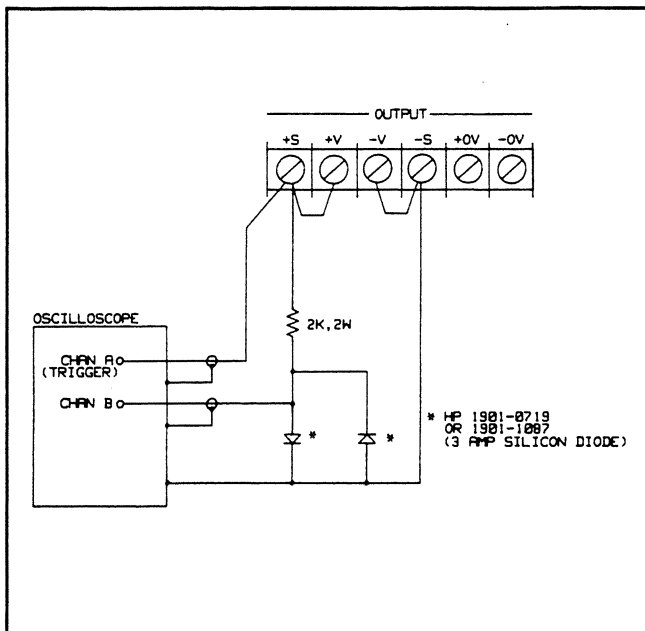
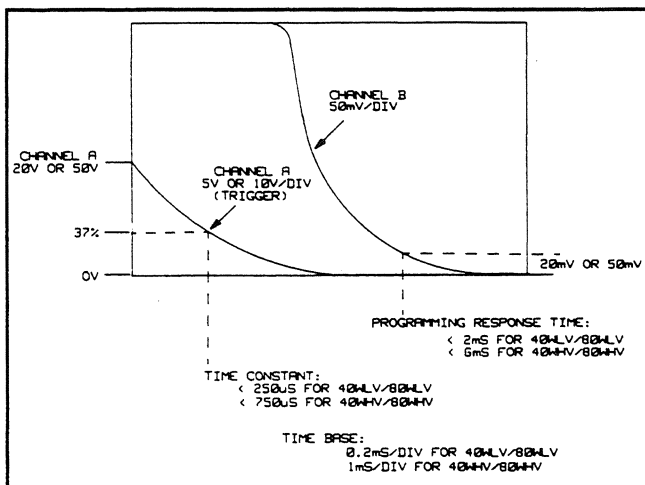

Figure 3-4. Down Programming Speed Test Setup
Figure 3-5. CV Down Programming Speed Test Waveforms
- Turn off the supply and connect the output to be tested as shown in Figure 3-4.
- On Channel A, observe the output voltage transition from the High Range Full Scale Voltage to the scope's bottom horizontal line. Look for a smooth exponential waveform with no "kinks" or aberrations. Perform a time constant check by insuring that the output voltage falls to about 37% of the High Range Full Scale in less than 250 μ sec. (40WLV/80WLV outputs) or 750 μ sec. (40WHV/80WHV outputs). Refer to the Channel A waveform shown in Figure 3-5.
- h. Now observe Channel B on the oscilloscope while maintaining the trigger on Channel A as in step f. Note that the diode clamp, used in the test setup of Figure 3-4, prevents gross overload of Channel B (which is set at 50 mV/div) allowing examination of the "tail" of the exponential waveform. The output voltage should be within 20 mV of its final settling value on the bottom horizontal line in less than 2 msec for 40WLV/80WLV outputs and within 50 mV in less than 6 msec for 40 WHV/80 WHV outputs. Refer to the Channel B waveform shown in Figure 3-5.